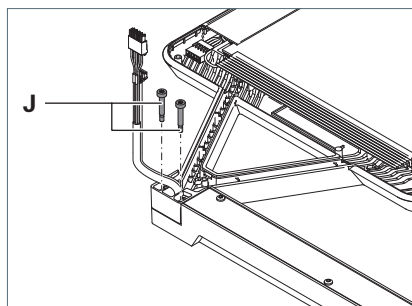

Fig. 13: Fixing the luminaire head in place.
2. Tighten the two adjusting screws **J** until the screw heads are flush with the adapter, see Fig. 13.